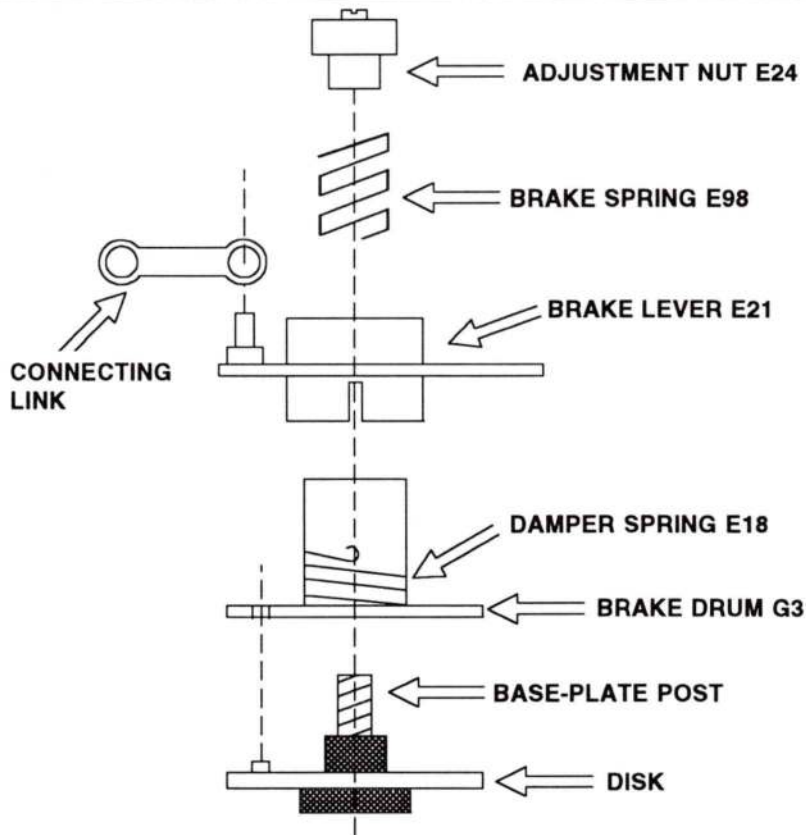

FIG. 28 BRAKE ASSEMBLY
**Note:** You can replace the damper spring, Fig. 28, without disturbing the adjustment—avoid turning the setscrew at the top of the adjustment nut, Fig. 25. Be sure to note and replace washers above and below the compression brake spring, Fig. 28.
4. lift out compression brake spring, Fig. 28—note washers at each end of brake spring
8. remove brake-damper spring E18 from brake drum, Fig. 28—there may be an adjustment washer under the damper spring
**Note:** There are white plastic washers, Fig. 27, on each side of the disk, Fig. 28. There may also be an additional metal washer and a third plastic washer above the disk.
1. Seat the damper spring over the brake drum as shown in Fig. 26 and Fig. 28 (hooked end up).
2. Seat the brake drum with its 2 slots passing over the tabs on the disk, Fig. 28.
3. Seat the brake lever with its slot passing over the end of the damper spring, Fig. 28. Replace the snap ring.
4. Replace the brake spring (washer at each end) and screw down the adjustment nut, Fig. 28.